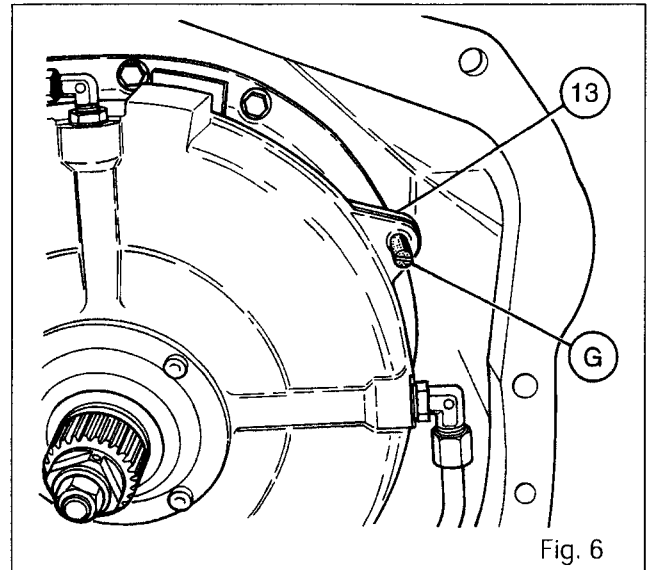

Fig. 6
15. Screw three "G" guide studs on the cover **(13)** (Fig. 6).